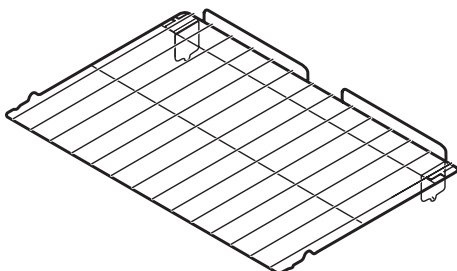

Figure 5 - Models B & C only
- **Effortless™ oven rack** (Models B & C only - Figure 5).